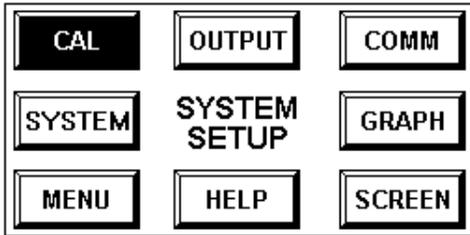

Figure ZD.4-2: Calibration Routine Start
- 4) Press “CAL” to start the Calibration routine {Figure ZD.4-2}.